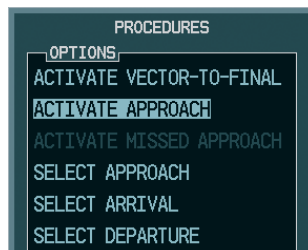

Figure 5-138 Manually Activate Approach
- Turn the large **FMS** Knob to highlight 'ACTIVATE APPROACH' as shown in Figure 5-138.